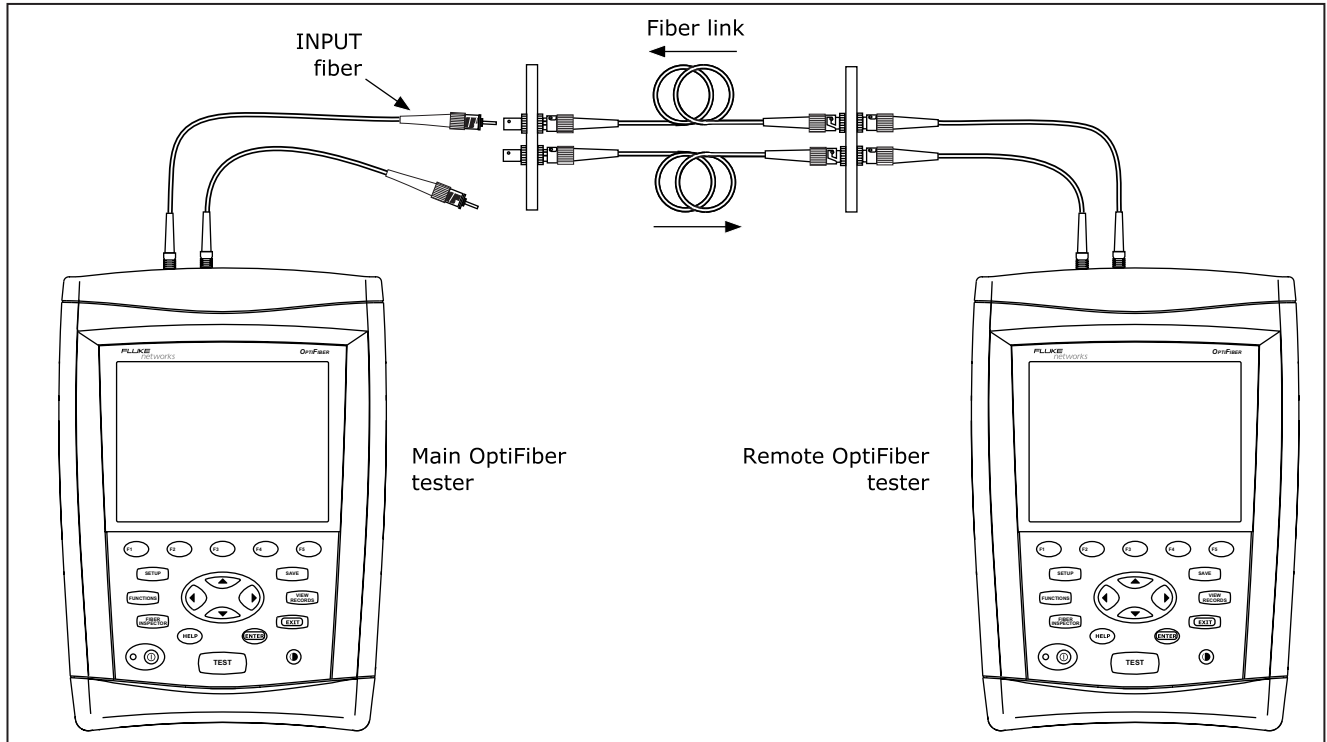

Figure 6-12. Using FindFiber in Smart Remote Mode
2. Clean all connectors; then make the connections shown in Figure 6-12.